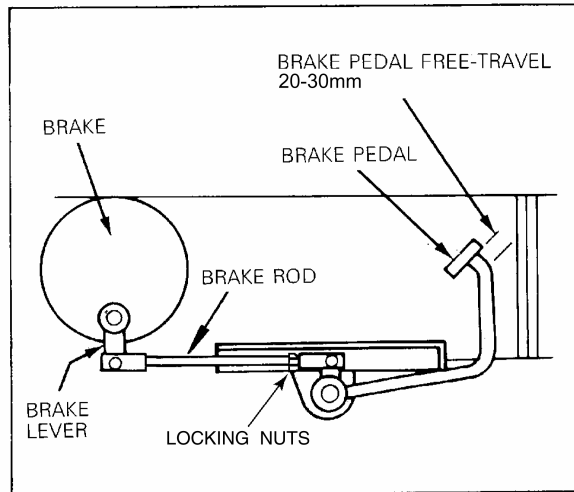

Figure 78 - Brake Pedal Adjustment
1. Loosen the lock-nut, Figure 78, and rotate the brake rod as necessary until there is 20-30mm of pedal free play. Lengthening the rod increases free play while shortening the rod decreases free play.